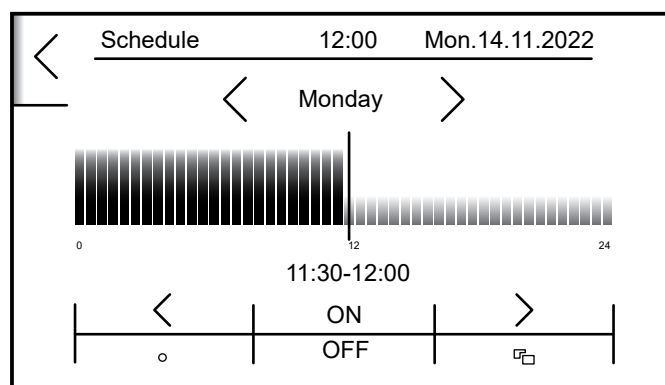

Figure 7-7: DHW/Heat pump time schedule interface
3. Modify the day if different to current by tapping navigation arrow. Refer to Figure 7-7.